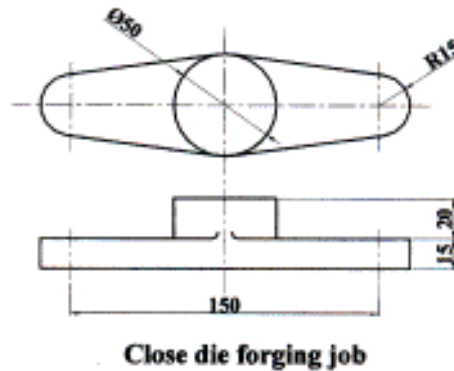

Fig. 5
5. Design forging die for the forging shown in fig. 5.